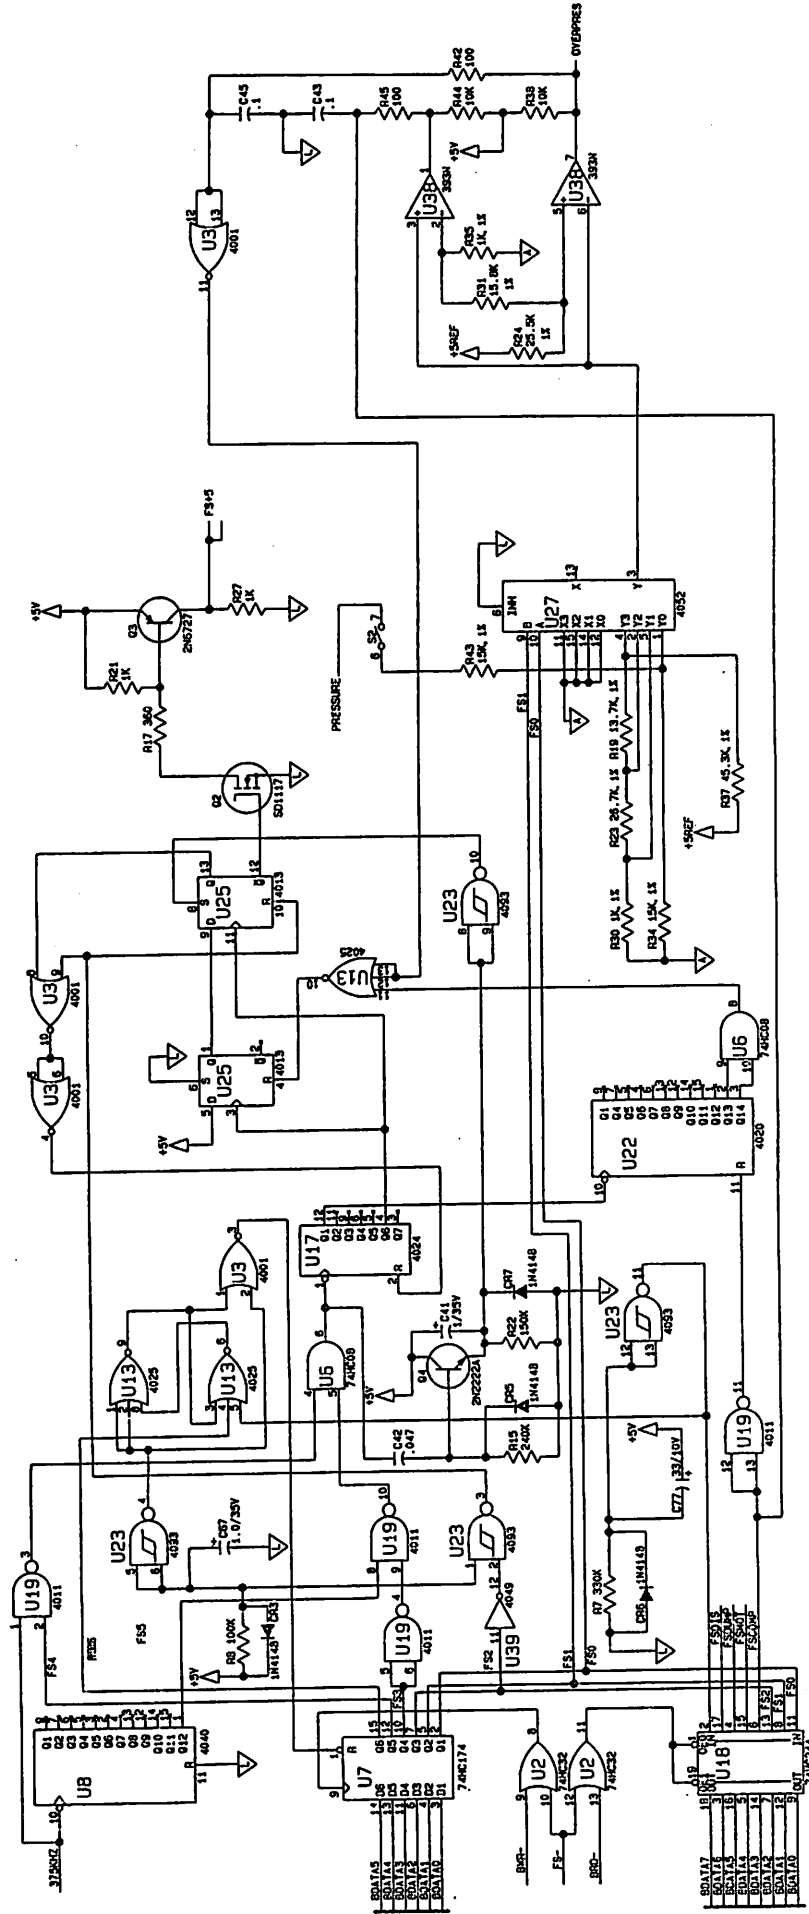

Figure 3-22A. Failsafe Circuit
3.8 HARDWARE FAILSAFE CIRCUIT (figure 3-22A, 3-22B)